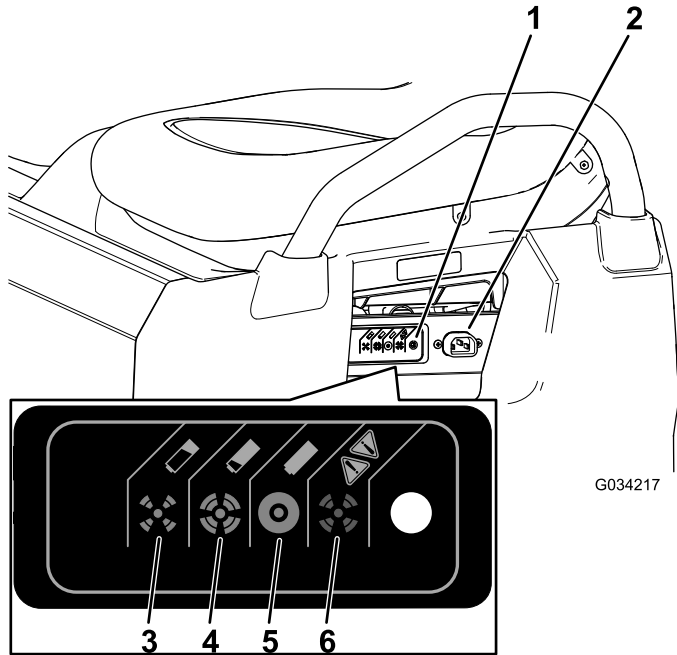

Figure 40
- Connect a **16 gauge (or larger diameter), 2.5 m (8.2 ft) or shorter charger cord** to the charging receptacle on the machine (Figure 40).
Refer to the following table and Figure 40 for information on the meanings of the varying colors of the charger-status light.